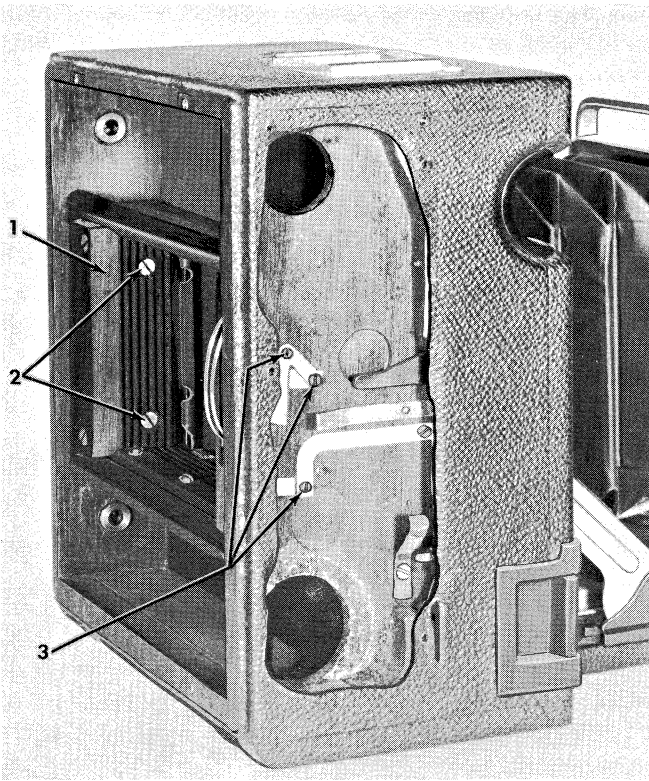

Figure 7. "23" Speed Contact Frame Assembly Removal
(c) On "45" cameras: Remove four machine screws (36). On "23" and "34" cameras: Remove the four wood screws (2, figure 7) holding the frame and contact assembly (1).
Note: If it is found difficult to remove the frame and contact assembly do not attempt to force the frame out. This can be remedied by removing the shutter plate (4, figure 2), as described in paragraph IV.A.1. and partially unscrewing the contact screws (3, figure 7).
(c) On "23" and "34" cameras: Replace the frame and contact assembly (1, figure 7) and assemble four wood screws (2).